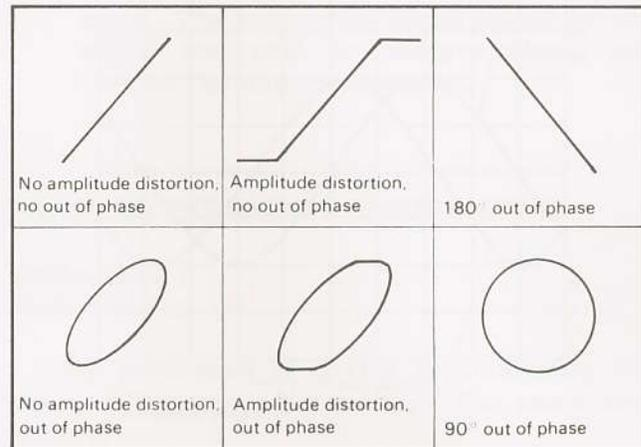

Fig. 17. Typical X-Y Phase Measurement Displays.
(refer to Fig. 17 and 18)
5. Leave the Y-axis input connected and reconnect the X-axis input. Some typical results are shown in Fig. 17.